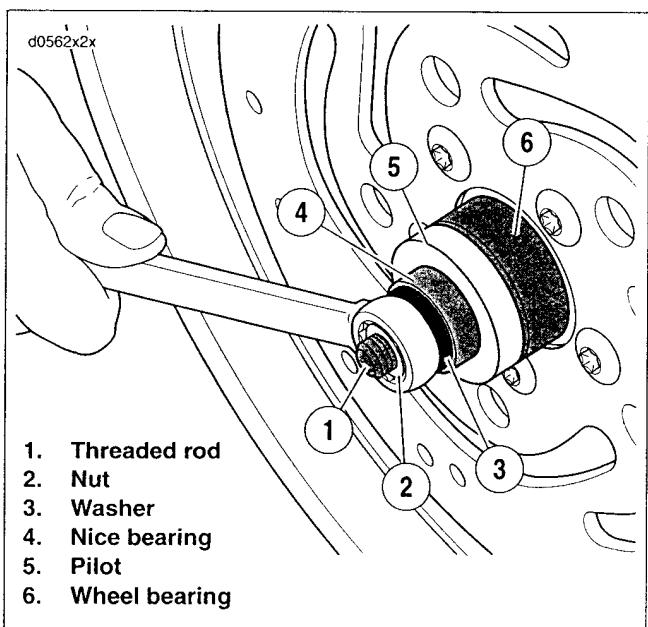

Figure 2-17. Installing Bearing
- See Figure 2-17. Place the new bearing (6) on rod (1) with lettered side facing away from wheel centerline.
- Install pilot (5), Nice bearing (4), washer (3) and nut (2) over rod.
- Hold hex end of threaded rod (1) and turn nut (2) to install bearing (6). Bearing will be fully seated when nut can no longer be turned. Remove tool.